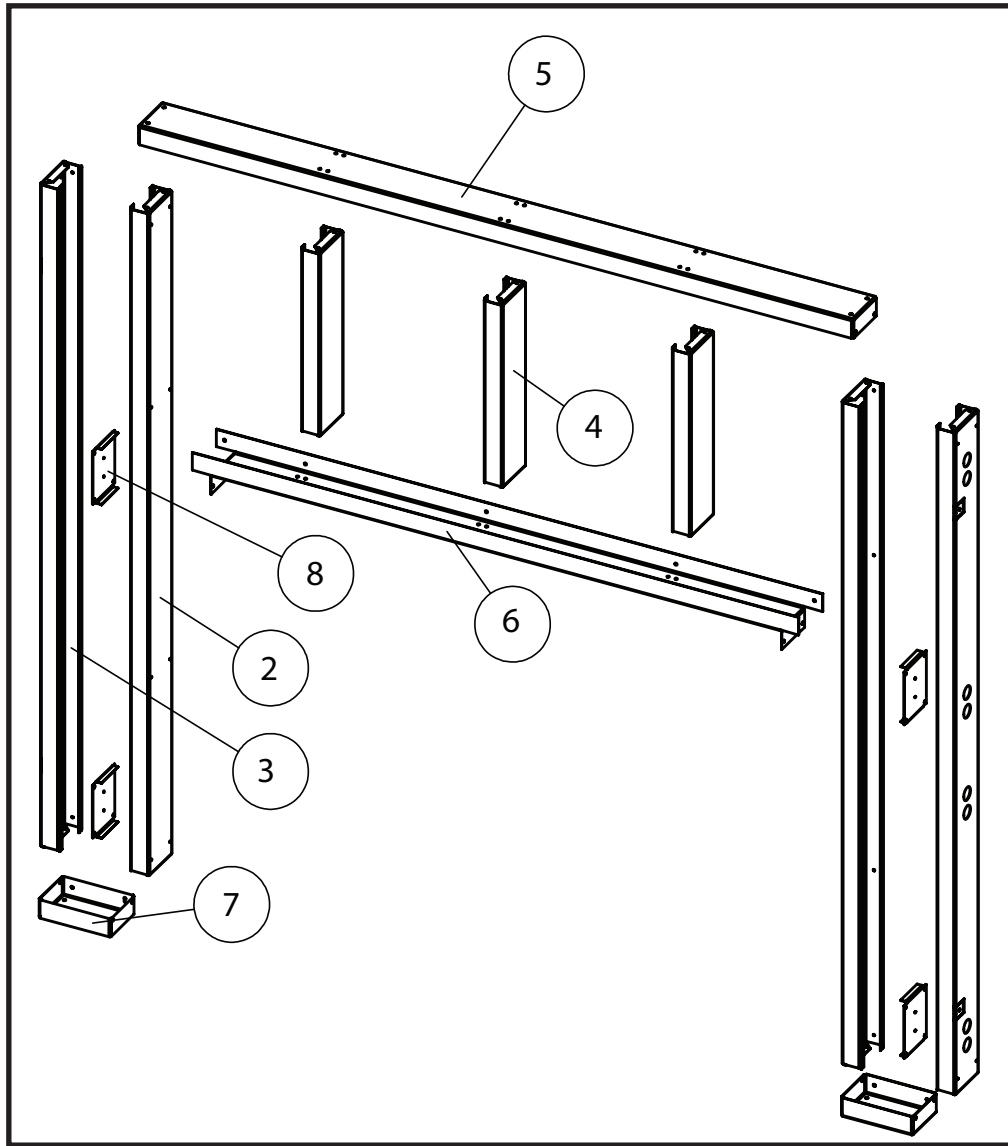
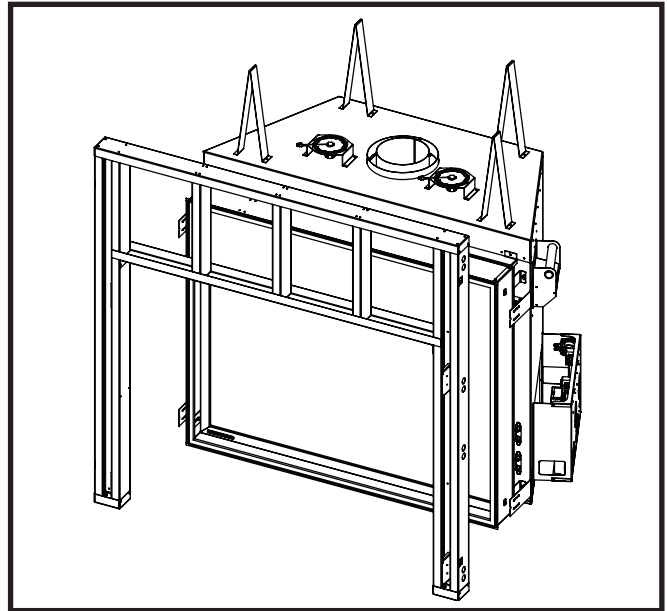
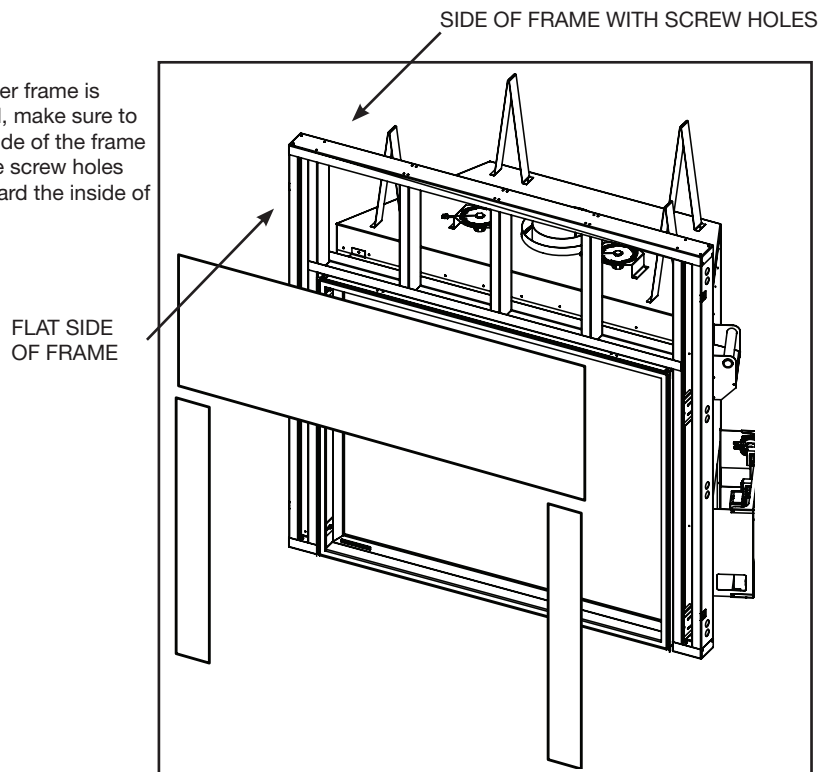

Figure 14: TC54 Steel frame assembly.
Figure 15: Align the assembled frame with the fireplace.
Figure 16: Aligning the frame so that the flat surface is facing outward.
- Lay out the horizontal header stud (5) on a large flat surface. (Position all pieces on their narrow edges as shown in the illustration in Figure 14).
- Position the three short, vertical center studs (4) perpendicular to the horizontal header stud, and align with the corresponding sets of screw holes. Fasten with the screws (1) provided.
- Position the shorter horizontal plate stud (6) at the bottom end and perpendicular to the vertical center studs (4). Align the bottom ends of the vertical center studs to the corresponding sets of screw holes and fasten with the screws provided.
- Lay the inner vertical side stud (2) so that its top end aligns with the 2nd set of screw holes of the horizontal header stud (5). The side stud should attach to, and be perpendicular to the short plate stud end (6). Fasten with the screws provided.
- Fasten the vertical outer side studs (3) to the ends of the header stud (5).
- Position the base plate (7) at the bottom of the inner and outer side stud legs and fasten with the screws provided.
- Align the assembled frame to the unit framing brackets (Figure 15). Align the framing plates (8) to the fastening points through the access holes in the outer side studs (3).
- Secure the frame assembly to existing framing through the header stud (5) and the base plates (7).
- Use drywall screws to install the concrete board (Figure 16).